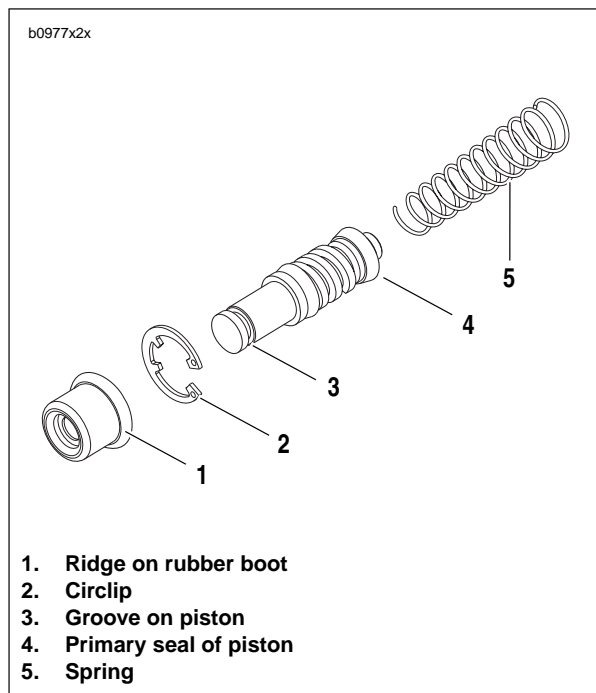

Figure 2-39. Front Master Cylinder Piston Assembly
2. See Figure 2-39. Assemble **new** piston components placing small end of spring (5) behind primary seal of piston (4).
6. See Figure 2-39. Install ridge on boot (1) into groove on piston (3).